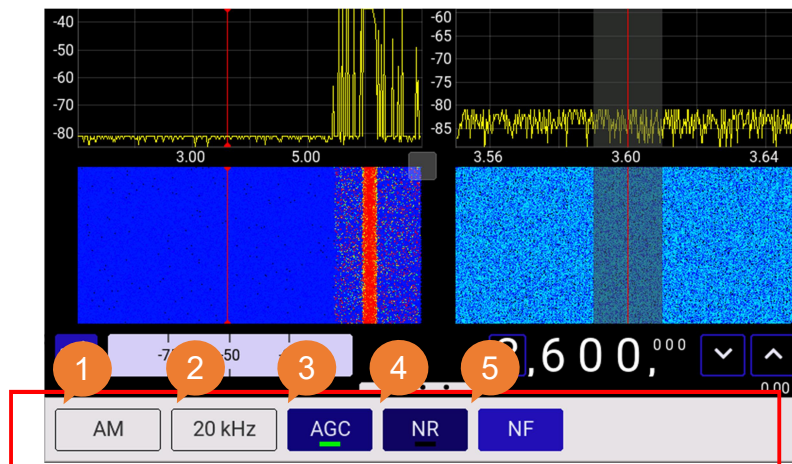

Figure 7.1 - Quick settings menu
- Press the button (2) once;
- Pull out the menu at the bottom of the screen outside the area (5) of the on-screen interface.
- The quick settings menu will appear on the screen, as in Figure 7.1.